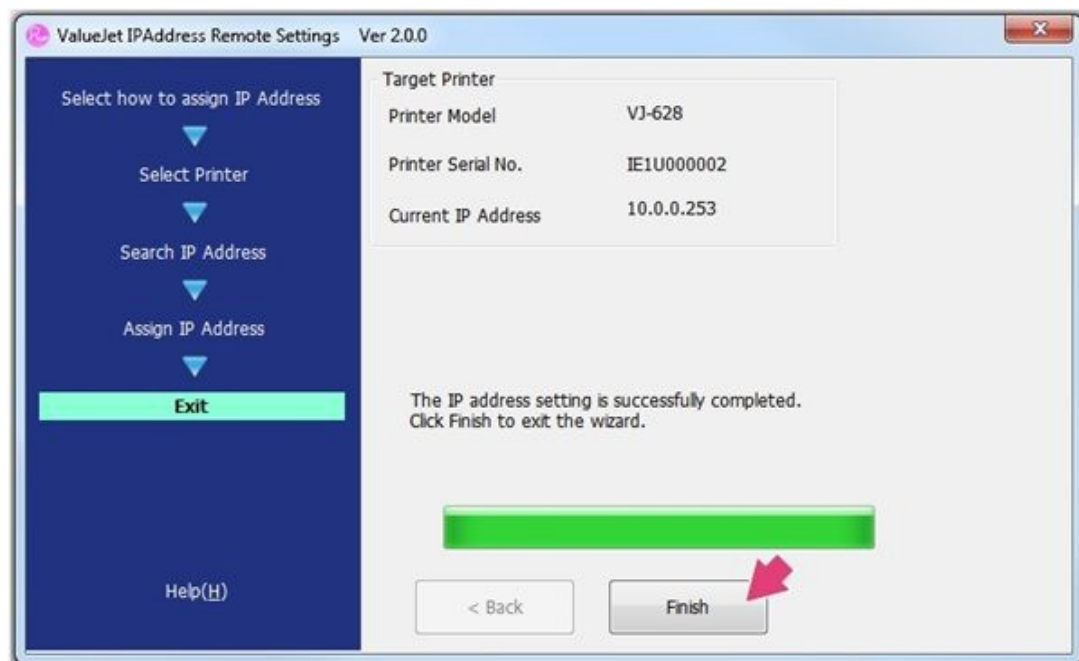

Figure 26
13. The IP address has now been set. Select **Finish** to continue. See Figure 26.